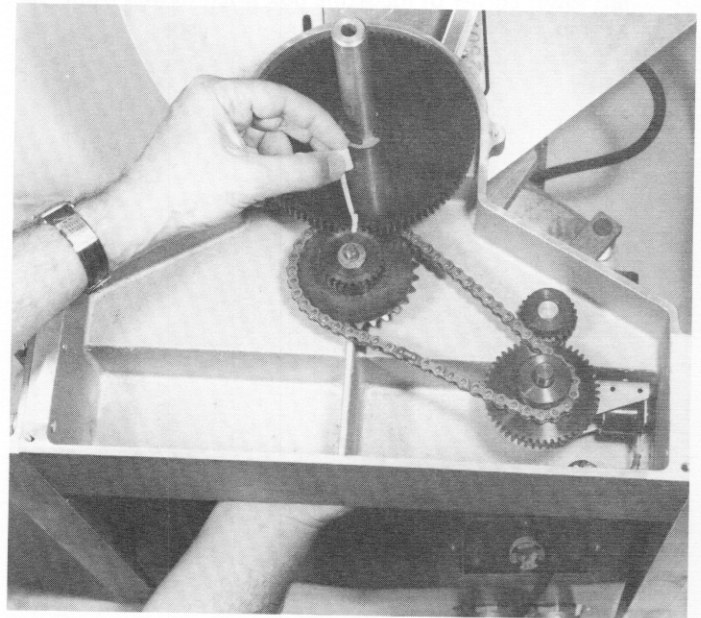
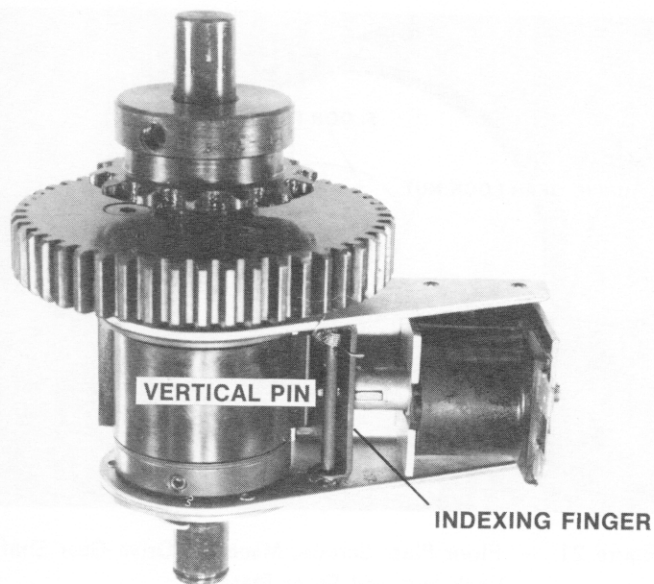

Figure 22 — Match Marking Magazine Gear and Magazine Drive Gear
Figure 23 — Magazine Indexing Clutch Assembly
- E. Match mark magazine gear with magazine drive gear (see Figure 22).
- G. The chain disconnect link is positioned for unsnapping by disengaging magazine indexing clutch to allow free movement of chain (see Figure 22). The magazine indexing clutch is disengaged by pressing on the end of the metal indexing finger and rotating slightly on the vertical pin (see Figure 23). The chain may also be removed by removing magazine drive gear and not disconnecting chain link.